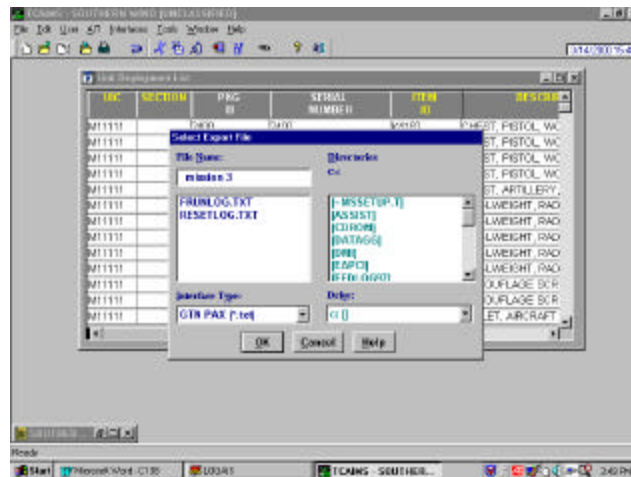

Figure 8
STEP 4. Validate the information in the Select Export File box and select **OK** (see figure 8)